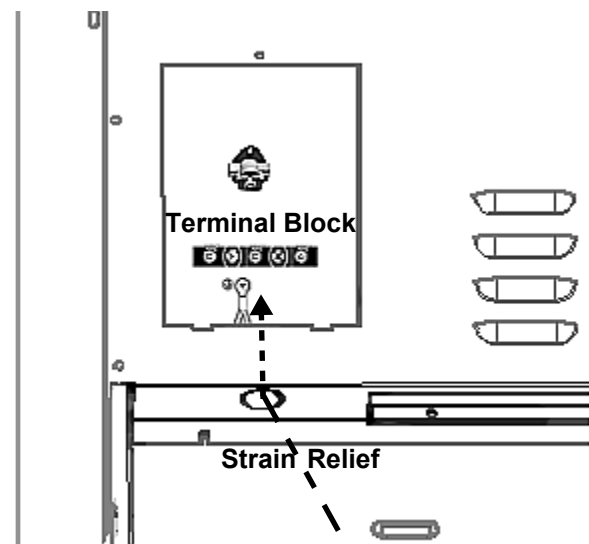

Figure 12: Strain Relief Location
Mount a strain relief (not provided) into the 1" (25.4mm) diameter hole located below the terminal block (see *Figure 12*). Wiring for the unit is to be brought into the terminal block through the conduit and through the strain relief. The ends of the wiring must have 1/4" (6mm) faston closed-loop lugs attached, preferably soldered in place. Make the connections to the terminal block provided.
2. Mount strain relief (not provided with range) into the 1" (25.4mm) diameter hole in the back panel located below the terminal block (see *Figure 12*). Route wires up through strain relief.